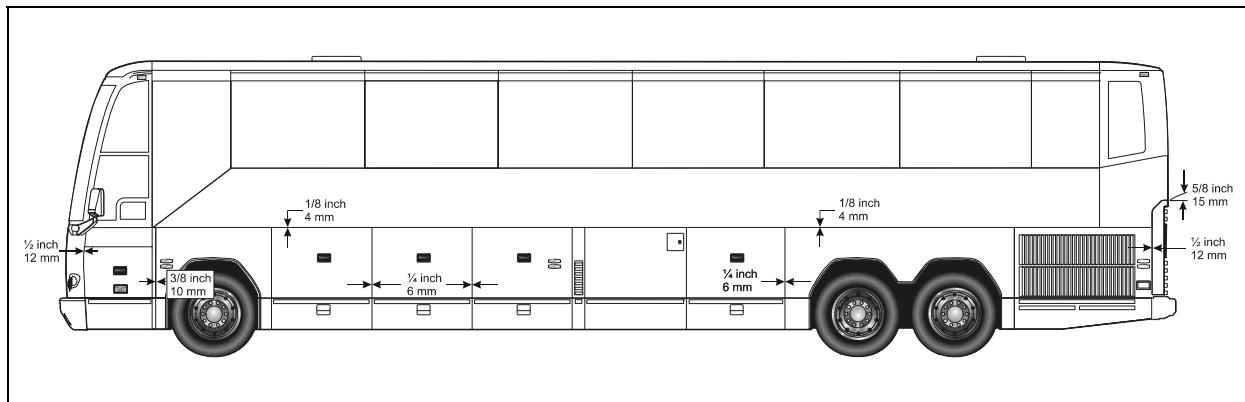

FIGURE 51: BODY PANEL SPACING
7. At the top of windshield, clean surface between fiberglass and rubber extrusion using Sika 205 (Fig. 51).